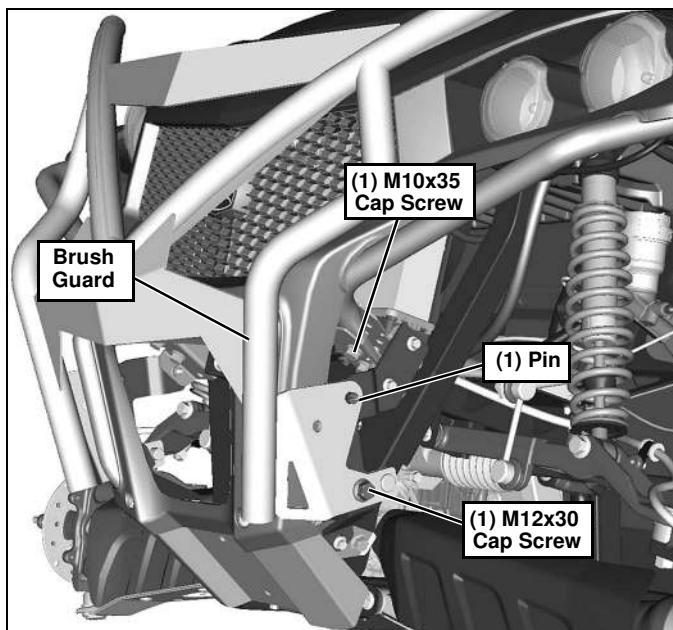

Figure 4
- For the Pivoting Brush Guard (on the driver's side), remove the Brush Guard Pin and M12x30 pivot Cap Screw holding the Brush Guard to the frame. Also remove the front M10x35 Cap Screw holding the Brush Guard Bracket to the frame. (See Figure 4.)